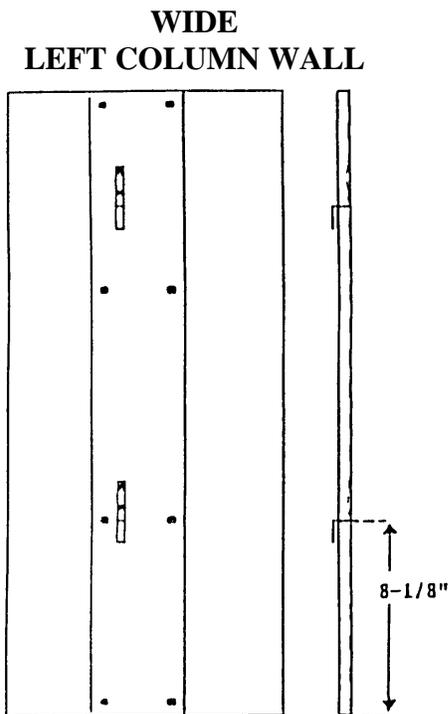

FIGURE 1
- A. See Figures 1 and 2 below for identification.